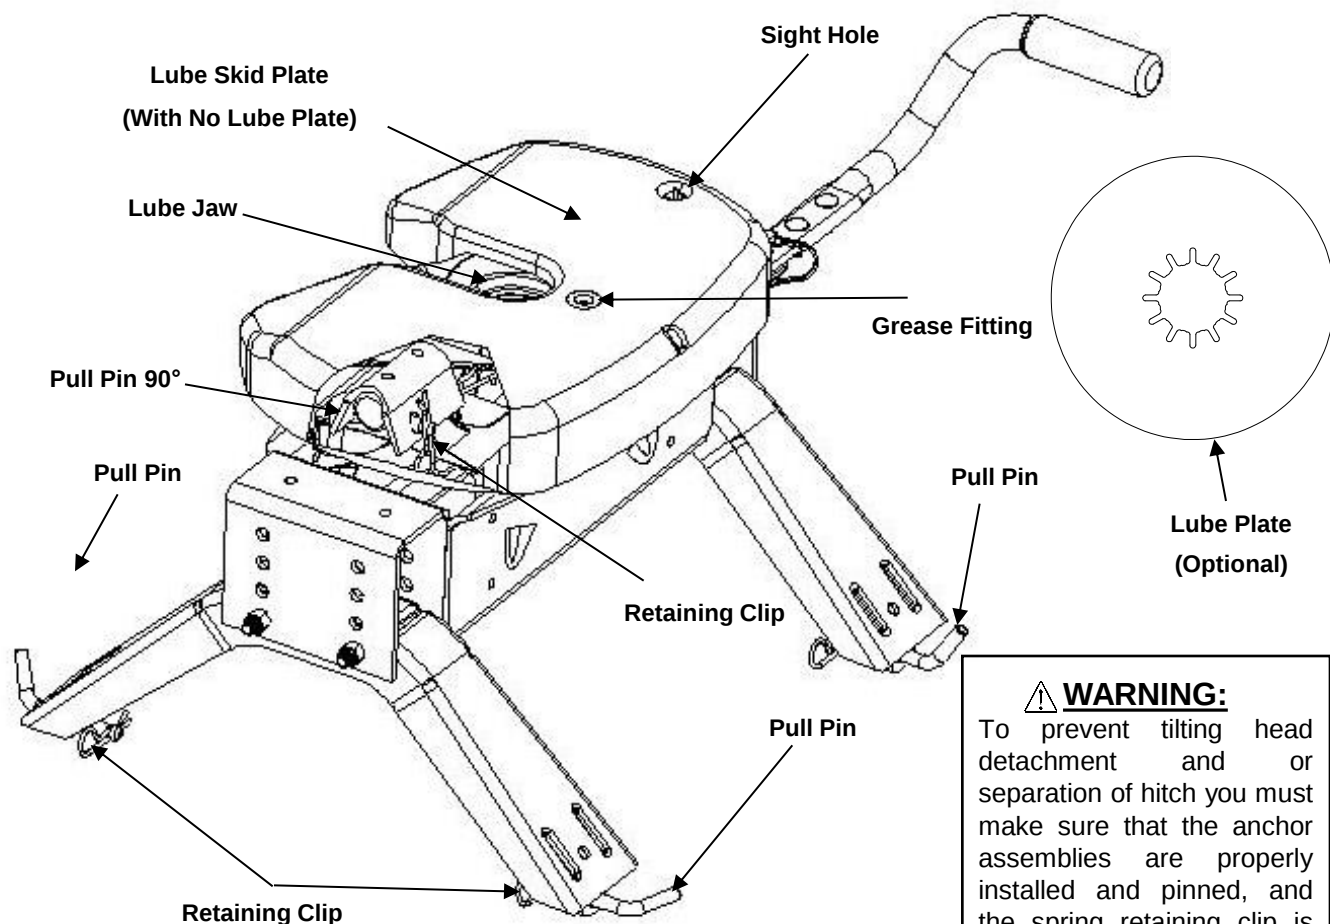
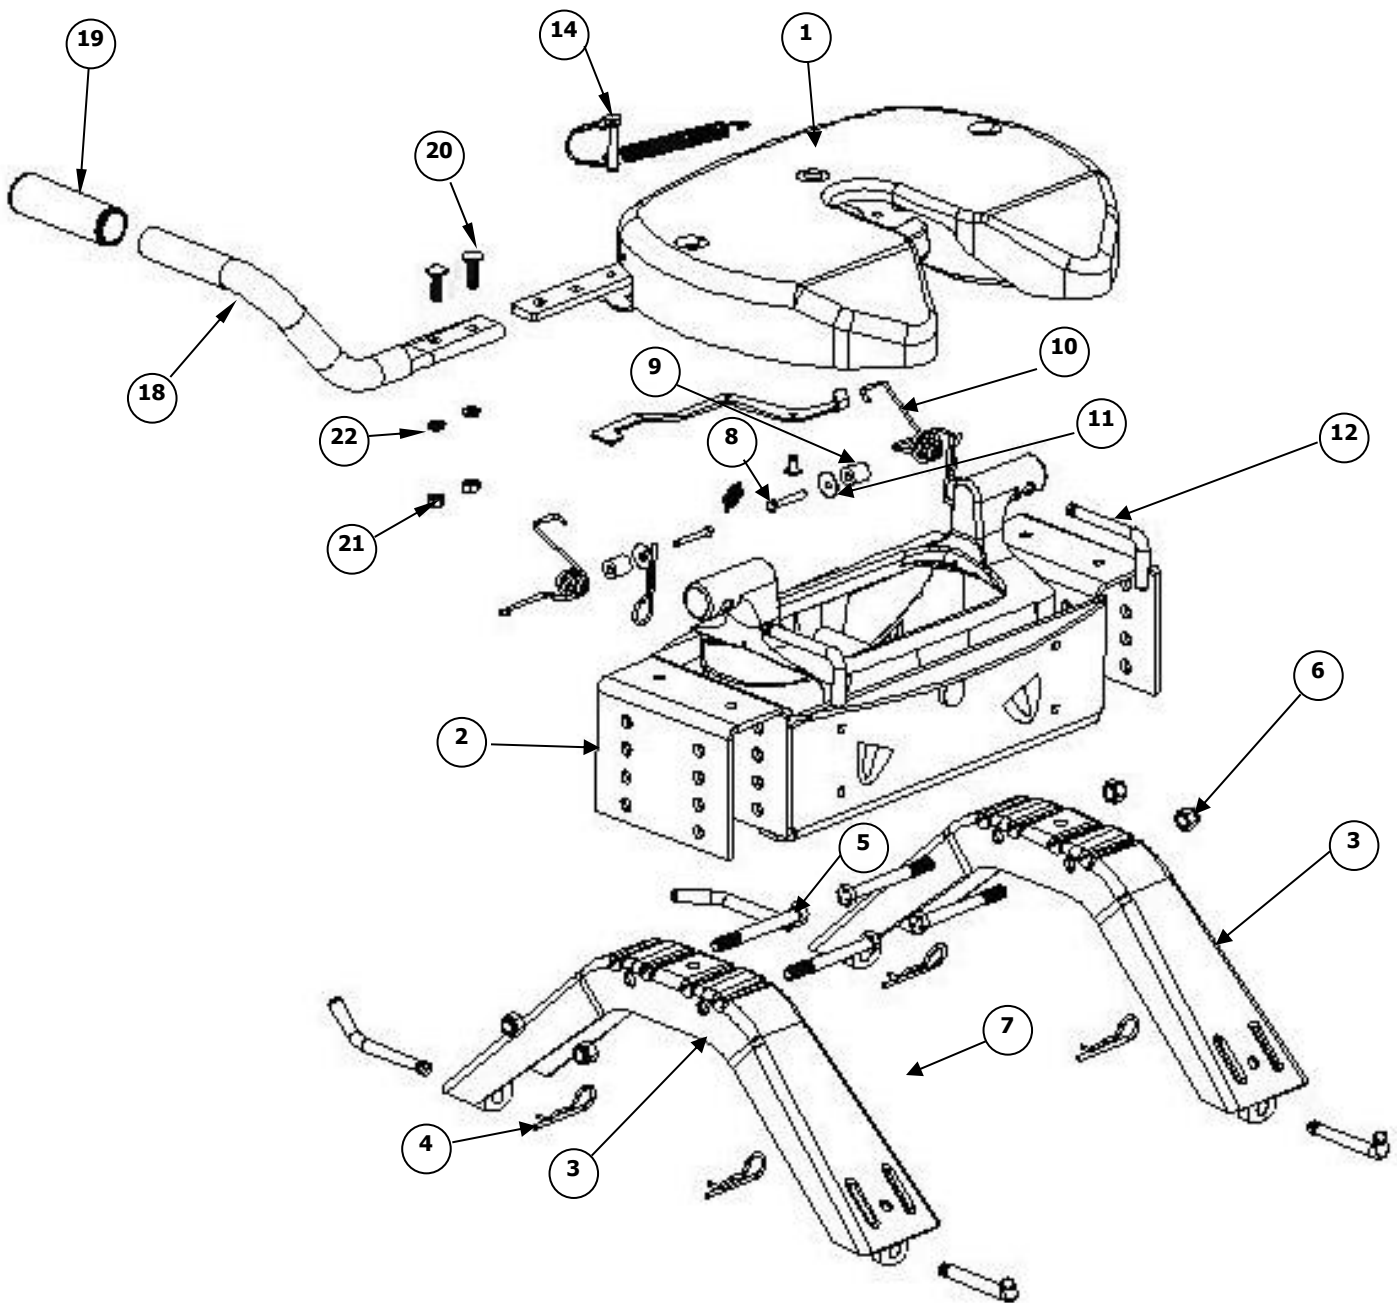

Figure 1 : Pin and Clip (Skid Plate cut away view)
Figure 11
4. See that all hitch pull pins (#7 (P/N 30434) & #12 (P/N 110974), Figure 11) are in place and the spring retaining clips (#4, Figure 11) are installed (Figure 1). Note that hitch pull pins used to attach the head assembly to the center section for the 5th Wheel Kit Hitch are 90 degree bent pins and if replacements are needed, please contact Customer Service at (800) 632-3290. Check that all four anchor assembly pins are pinned and have the retaining clips attached.